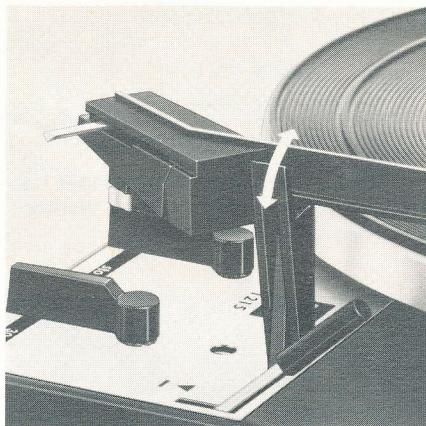

Fig. 7
Note: After a single record has played, or after the last record in a stack has played, the tonearm will return automatically to its rest and the motor will shut off. It is advisable then to lock the tonearm on its rest (Fig. 7).
Select the appropriate turntable speed ②, set the record size selector to 7", 10" or 12", depending on the size of the record you want to play, and unlock the tonearm (Fig. 7).